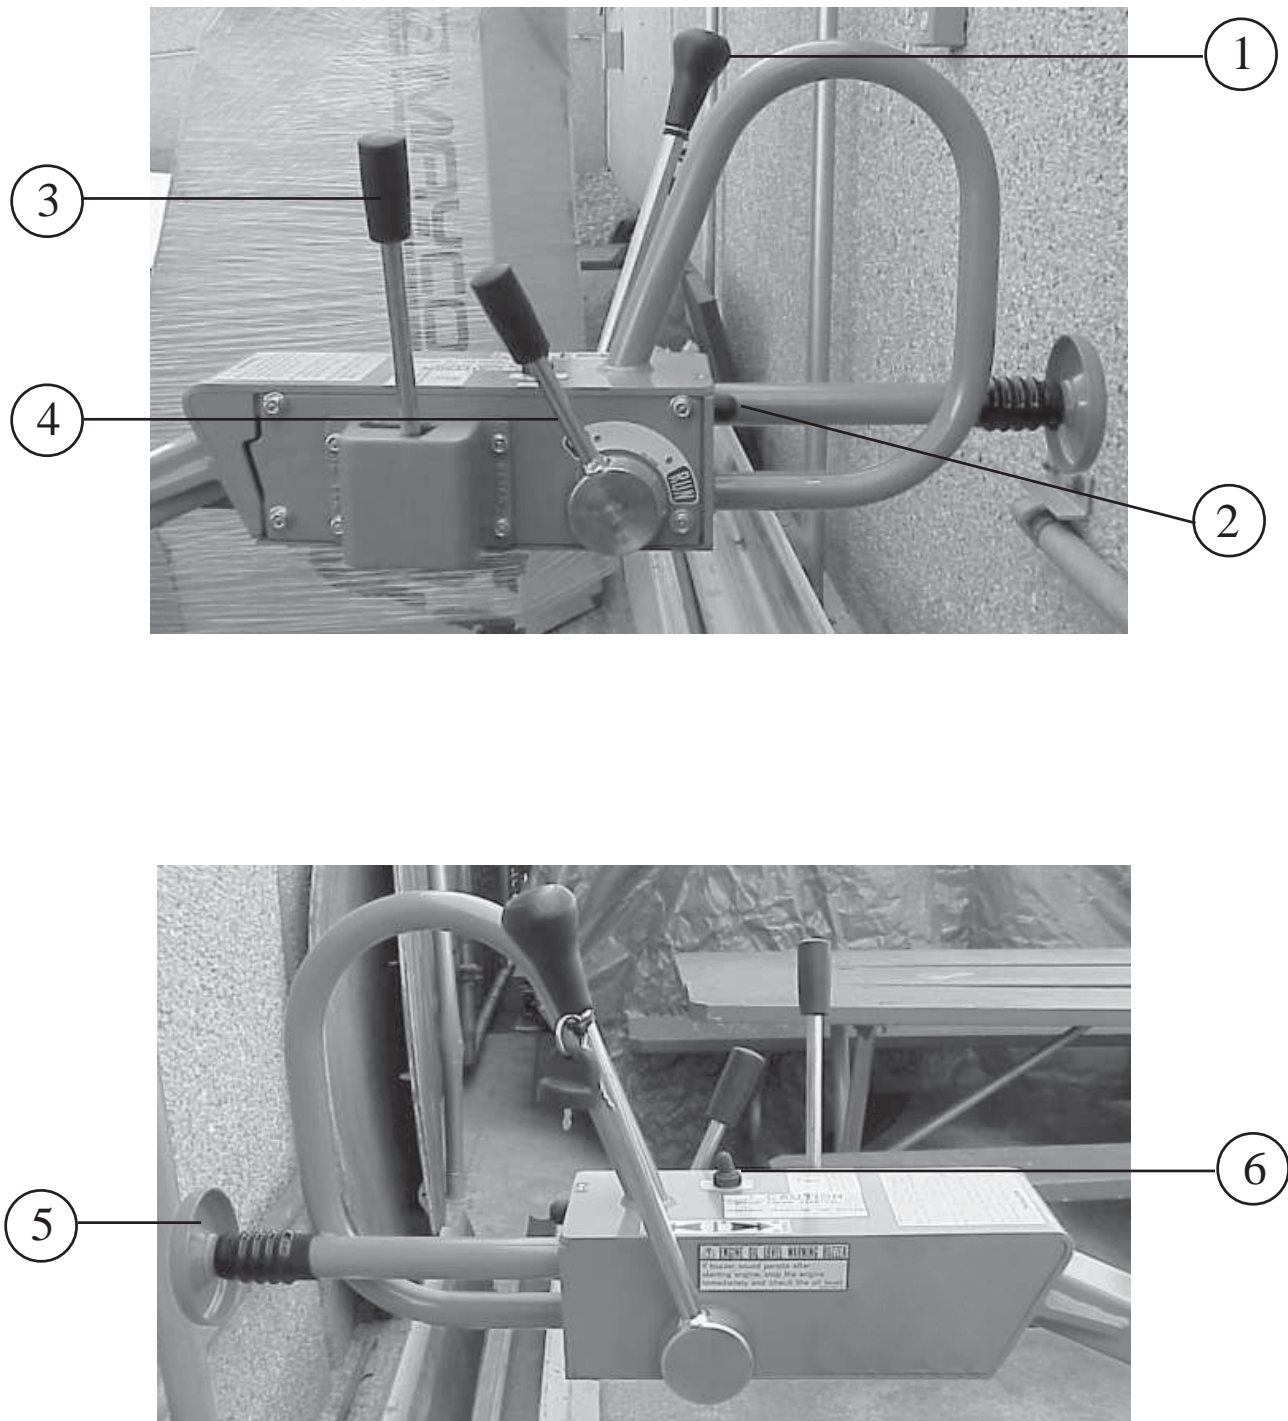

Figure 4. MRH800GS Lever Components
Figure 4 illustrates the location of the major lever components on the handle bar of the machine. Each component is described below:
1. Check travel, vibration, and throttle levers to make sure they are functioning properly (Figure 4).